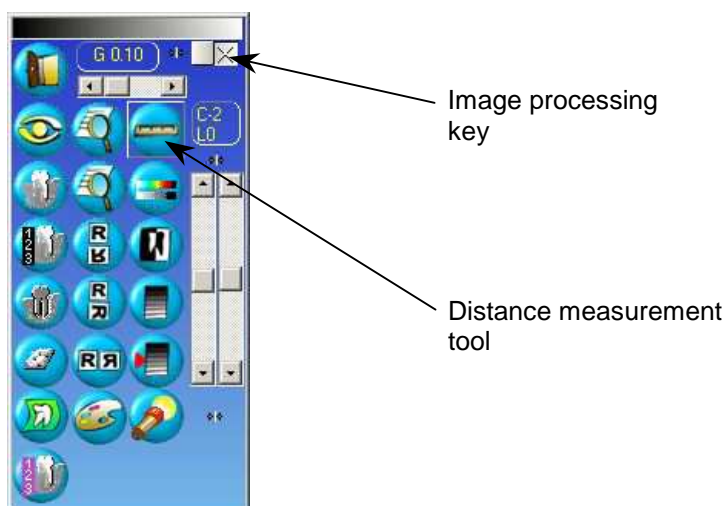

Figure 7-2
3. Place the centering tool (P/N 6107900200 - Figure 7-1) on the chin rest and the sensor calibration tool (P/N 5607900800 - Figure 7-2) in front of the sensor fixing it with tape.